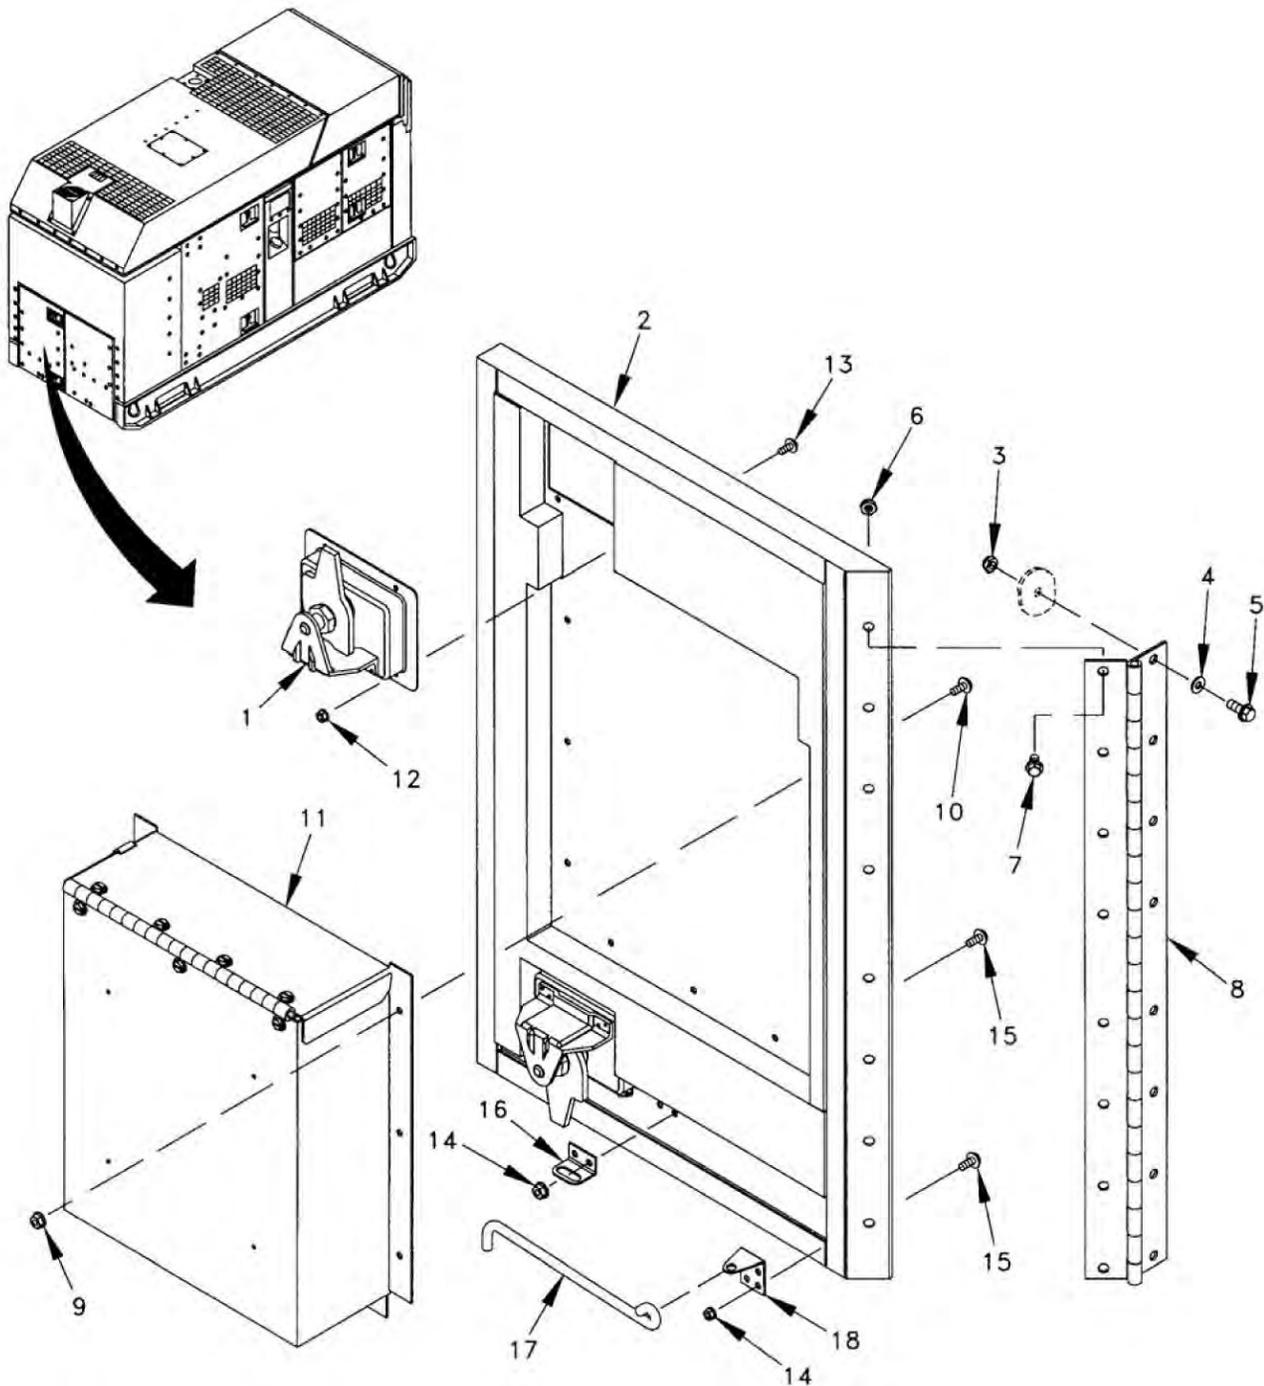

Figure 1. Right Battery Access Door Assembly.
1. Turn two latches (Figure 1, Item 1) and open right battery access door (Figure 1, Item 2).
2. Remove eight locknuts (Figure 1, Item 3), washers (Figure 1, Item 4), screws (Figure 1, Item 5), and right battery access door and hinge (Figure 1, Item 2).
1. Remove eight locknuts (Figure 1, Item 6), screws (Figure 1, Item 7), and hinge (Figure 1, Item 8) from right battery access door (Figure 1, Item 2).
2. Remove nine nuts (Figure 1, Item 9), screws (Figure 1, Item 10), and document box assembly (Figure 1, Item 11).
3. Remove eight nuts (Figure 1, Item 12), screws (Figure 1, Item 13), and two latches (Figure 1, Item 1).
4. Remove four nuts (Figure 1, Item 14), screws (Figure 1, Item 15), holding rod bracket (Figure 1, Item 16), door holding rod (Figure 1, Item 17), and door holding bracket (Figure 1, Item 18).
3. Install door holding bracket (Figure 1, Item 18), door holding rod (Figure 1, Item 17), and holding rod bracket (Figure 1, Item 16) and secure with four screws (Figure 1, Item 15) and nuts (Figure 1, Item 14).
4. Install two latches (Figure 1, Item 1) and secure with eight screws (Figure 1, Item 13) and nuts (Figure 1, Item 12).
5. Install document box assembly (Figure 1, Item 11) and secure with nine screws (Figure 1, Item 10) and nuts (Figure 1, Item 9).
6. Install hinge (Figure 1, Item 8) and secure with eight screws (Figure 1, Item 7) and locknuts (Figure 1, Item 6).